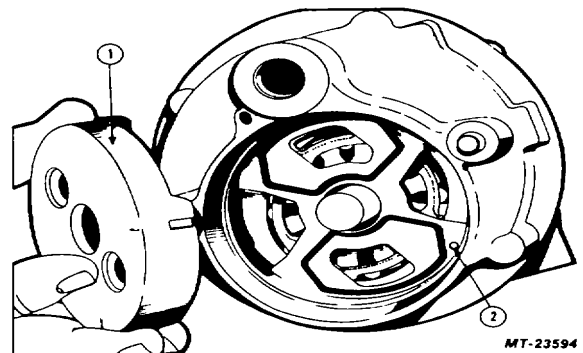

Fig. 36 Installing Cover
11. Install cover over the shaft and onto the locating pin, Figure 36. If properly assembled, open slots of body, end plates and cover should align.